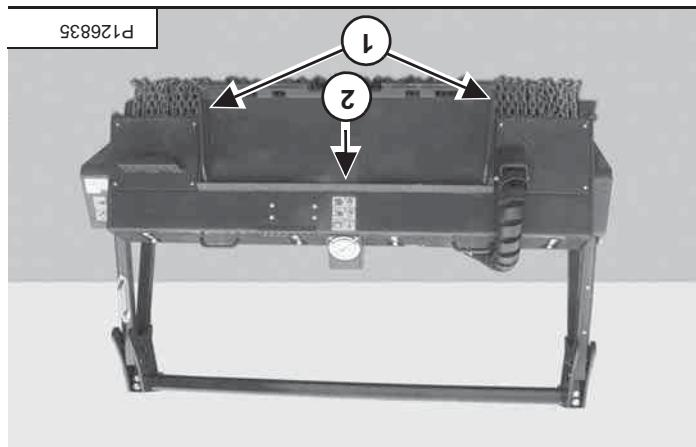

Figure 14
Inspect the Bob-Tach wedge mount (item 1), mounting flange (item 2) [Figure 14] and all welds on the forestry cutter is removed from the loader.